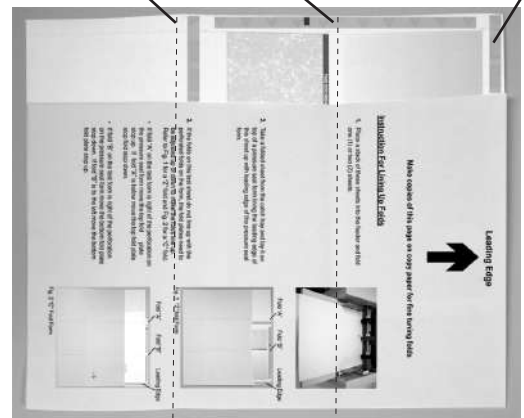

Fig. 67 "Z" fold Form
3. If the folds on this test sheet do not line up with the perforated folds on the form, the fold plates need to be adjusted up or down to make the folds line up. Refer to Fig. 67 for a "Z" fold and Fig. 68 for a "C" fold.